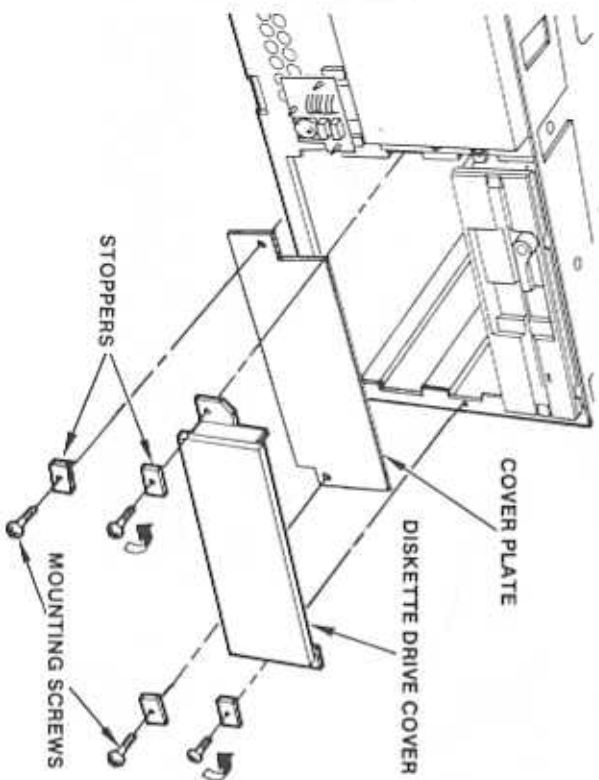

Figure 11-19. Cover Plate Removal
3. If you have one flexible diskette drive, remove the drive B cover plate (Figure 11-19). Then go to step 5.
5. Remove the bottom plate covering the second fixed-disk drive slot (Figure 11-19).